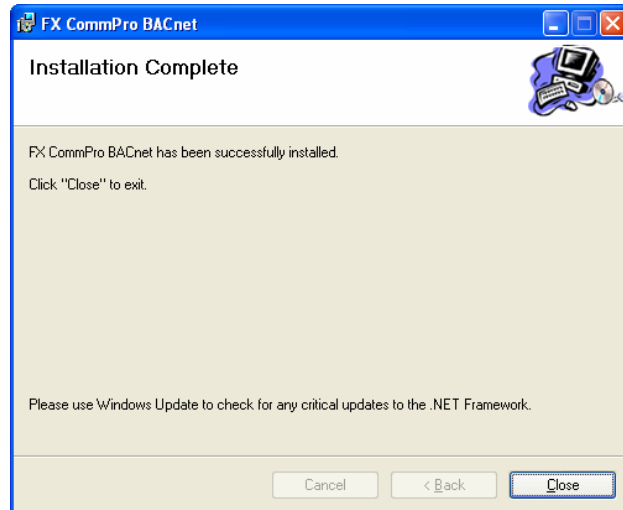

Figure 7: Installation Complete Window
9. Click Next. The Installation Complete window appears (Figure 7).